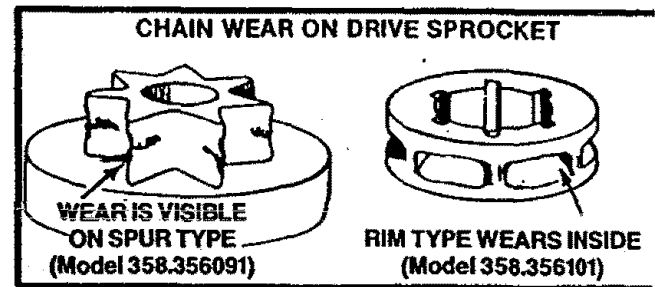

Figure 53
- Inspect the drum/sprocket regularly for wear. A worn sprocket will make the chain run erratically and will shorten the life of the bar and chain. Figure 53.